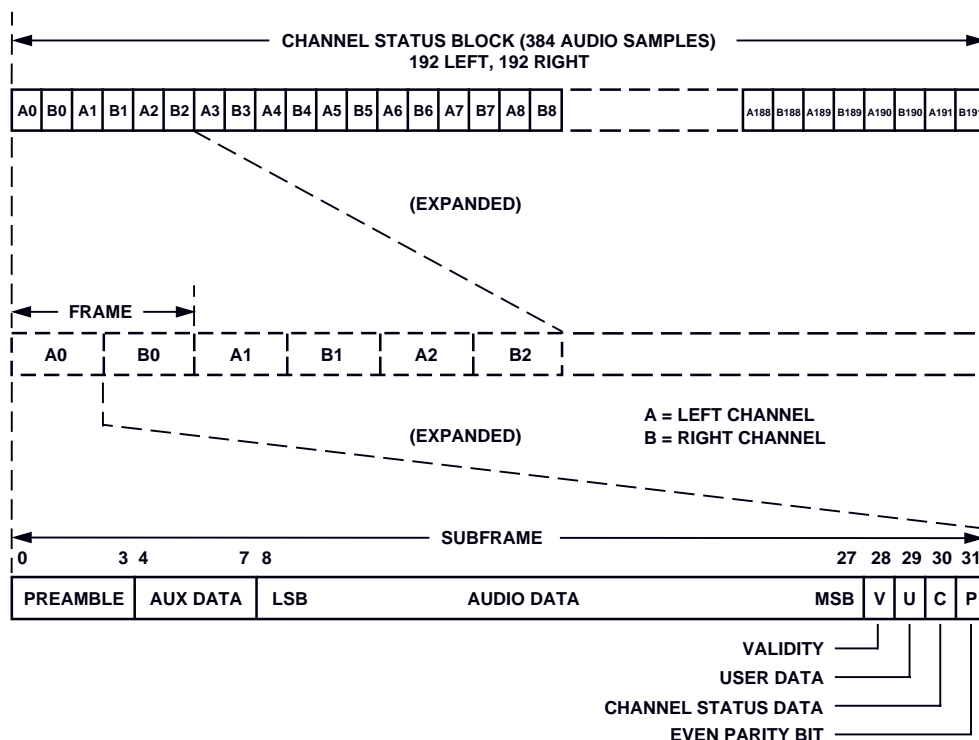

Figure 5. Block, Frame and Subframe Organization
As noted above, these serial digital audio communication schemes are organized using a frame and subframe construction. There are two subframes per frame (ordinarily the left and right channel). Each subframe includes the appropriate four bit preamble, four bits of “auxiliary” (aux) data, 20 bits of audio data (LSB first), a “validity” (V) bit, a “user” (U) data bit, a Channel Status (C) bit and an even parity (P) bit. The Channel Status bits and the user bits accumulate over many frames to convey control information. The Channel Status bits accumulate over a 192 frame period (called a Channel Status block). The user bits accumulate over 1176 frames when the interconnect is implementing the so-called “subcode” scheme (EIAJ CP-2401). The organization of the Channel Status block, frames and subframes is shown in Figure 5.